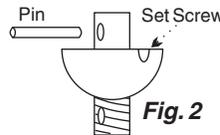

Fig. 2
A.1. Take the ball & downrod and loosen the set screw in the ball. Remove the pin and the ball from the downrod. (If you have a longer downrod, use it now.) See Fig. 2